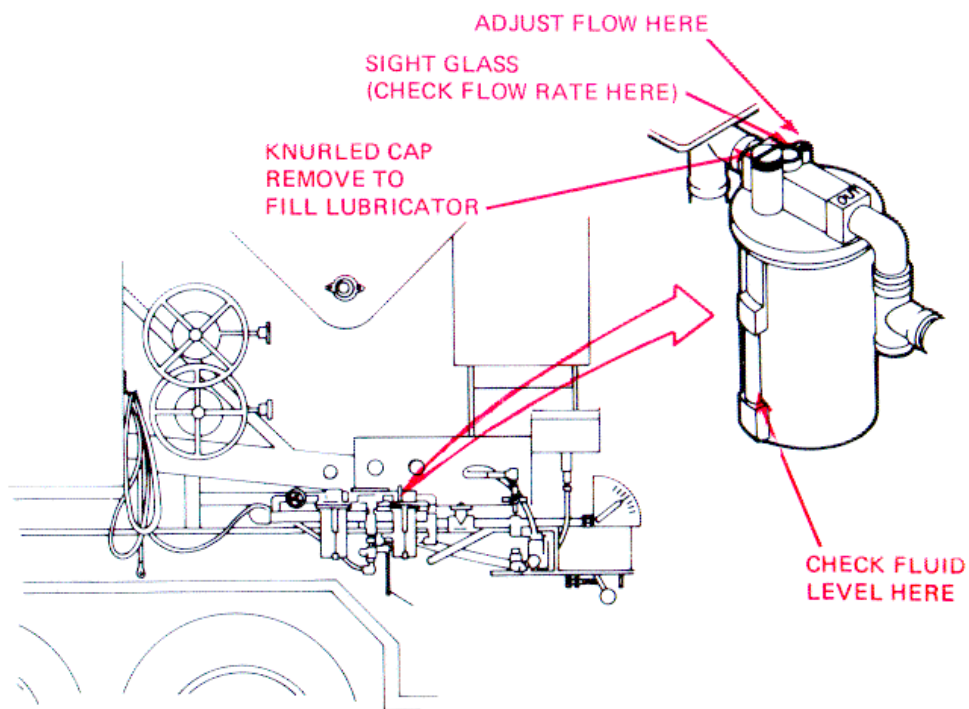

Figure 3-3. Vibrator Air Lubricator.
c. *Vibrator Air Lubricator* (See fig. 3-3.) The vibrator air lubricator should dispense approximately one drop of oil every third vibration. This rate may be checked by observing the sight glass on top of the unit. To adjust flow rate, turn the screw on top of the unit clockwise to slow down oil flow or counterclockwise to speed up oil flow. Check the sight gage on the side of the reservoir to determine when the reservoir requires filling. Filling is only required when oil is not visible in the sight gage. To fill the reservoir unscrew the knurled cap on top of the unit and pour in oil. Observe the sight gage to determine when the reservoir is full. Install and tighten the knurled cap finger tight.